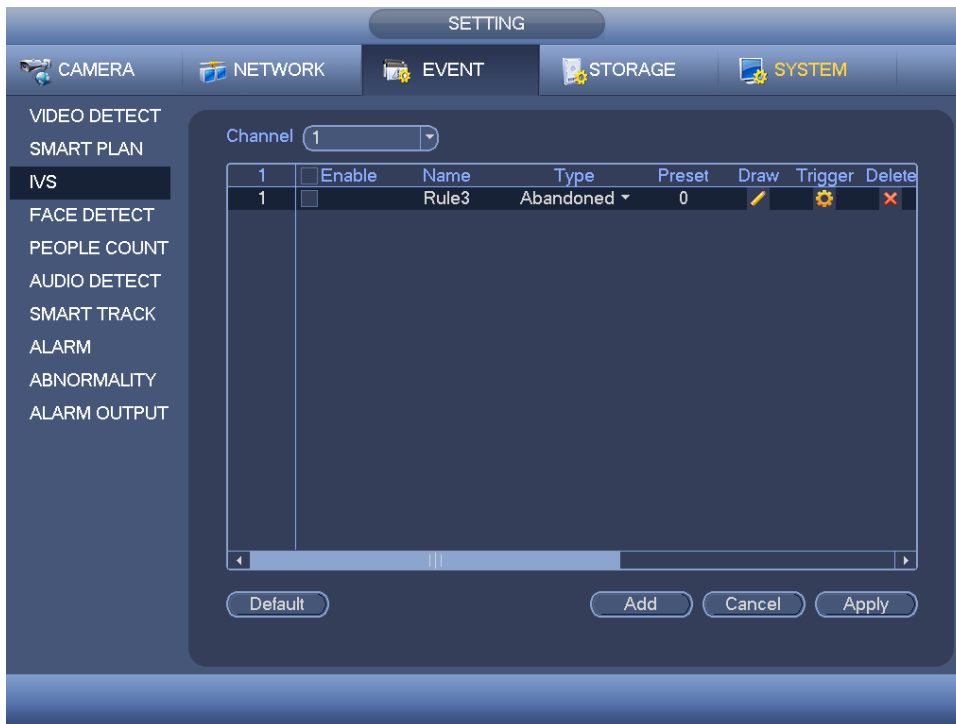

Figure 4-165
Step 1 From main menu->Setting->Event->IVS, click Add button and then select the type as abandoned object. The object interface is shown as below. See Figure 4-165.